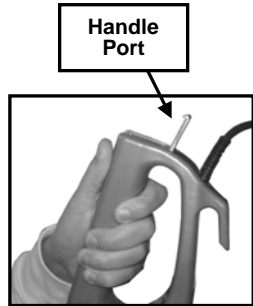
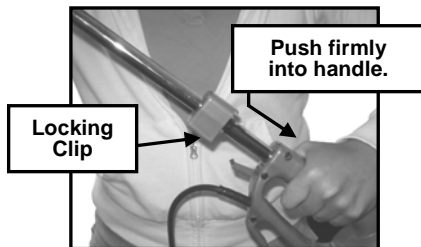

Fig. 1
Fig. 2
- On the hand vac handle, pull open the handle port (Fig. 1) and insert the extension tube until the locking clip is sitting firmly on the handle. (Fig. 2)